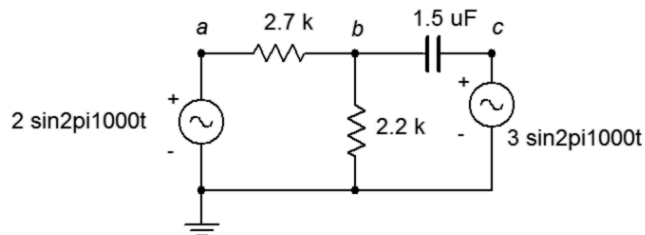

Figure 5.1
1. For the circuit shown in Figure 5.1, use Superposition to find v_b .
2. For the circuit shown in Figure 5.1, use Superposition to find the current through the capacitor.